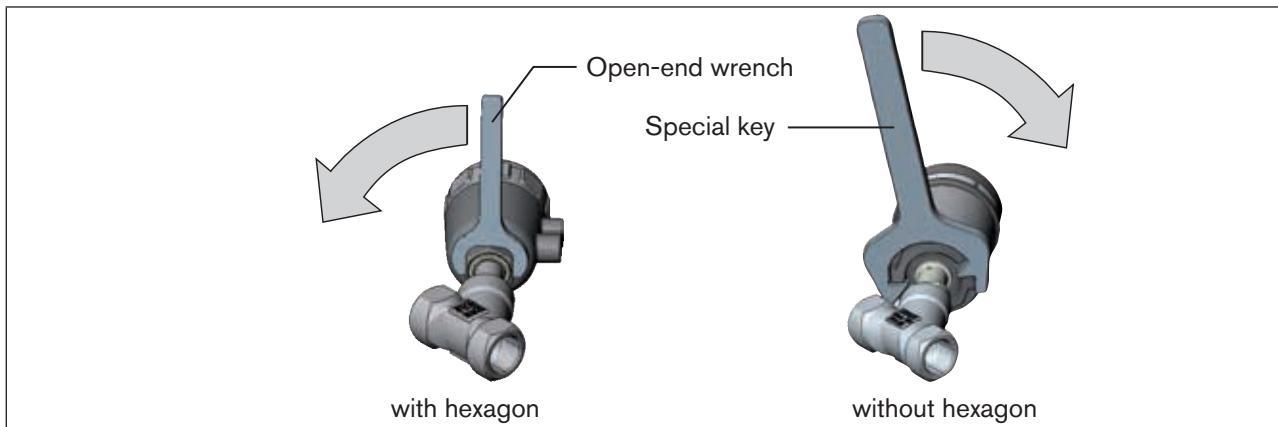

Figure 17: Rotating with special key / open-end wrench
- Rotate the actuator module **in the specified direction only** (see "Figure 17").